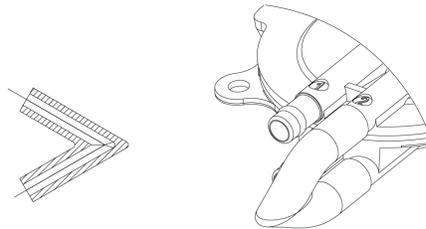

Figure 8. V coupler for Series configuration pump.
- Ports 2 and 4 must be linked – V coupler provided in the kit as shown in Figure 8.